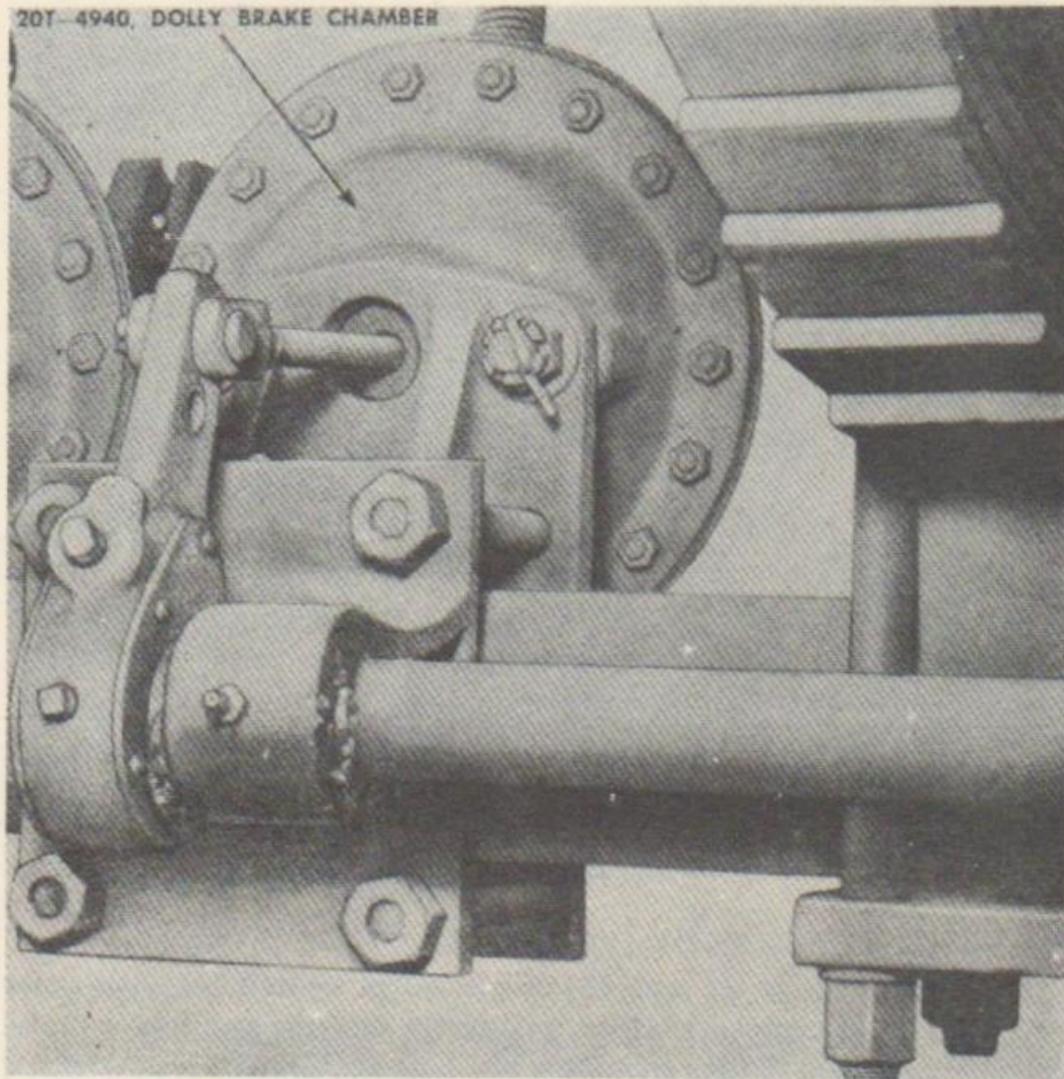

FIGURE 22. DOLLY BRAKE CHAMBER
b. Removal (figs. 22 and 23). Removal procedure for semitrailer and dolly brake chambers is identical, except that the semitrailer brake chambers are held to their mounting brackets by nuts and lock washers, and the dolly brake chambers are provided with castle nuts.
(1) Disconnect connector nut from connector body, and pull tubing or hose out of chamber. Remove cotter pin from rod end pin and drive out the rod end pin. Remove nuts from studs, and lift chamber off mounting bracket.